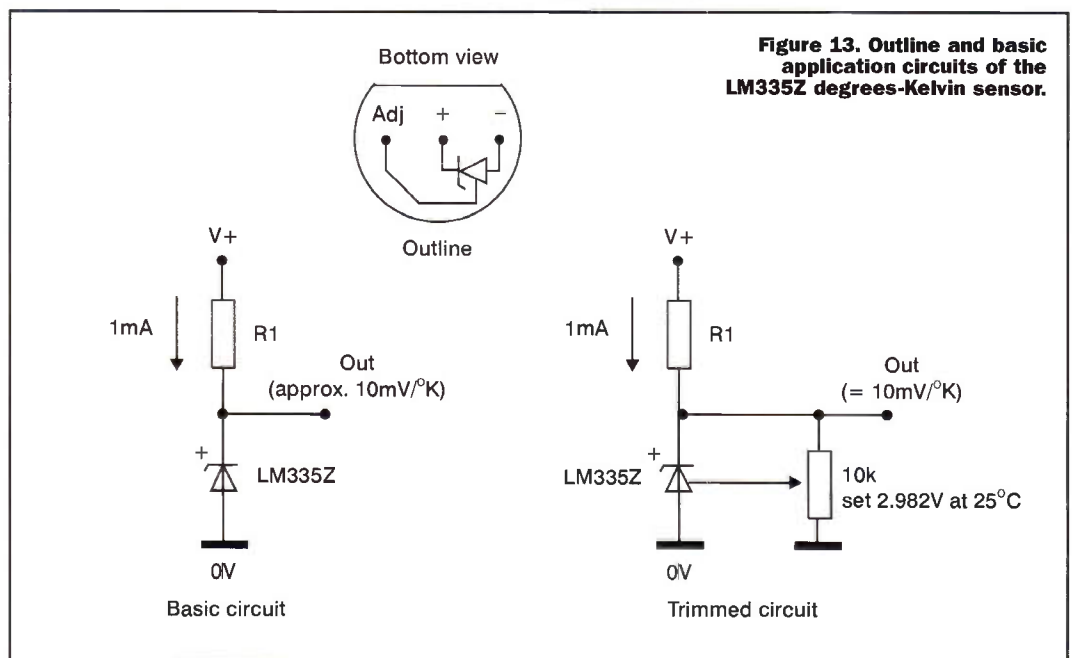
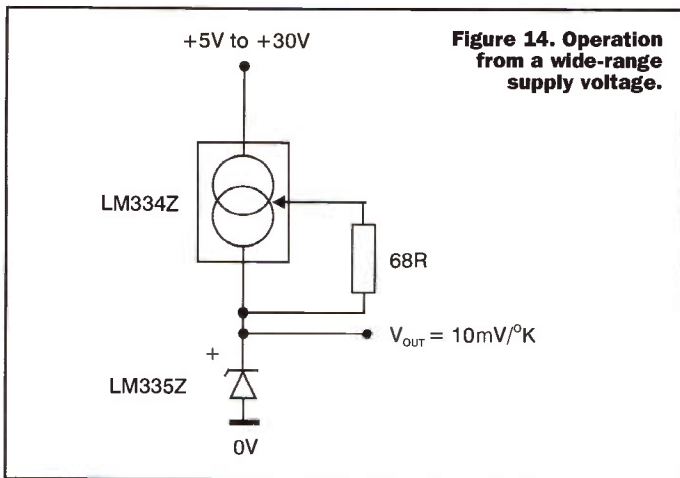

Figure 13. Outline and basic application circuits of the LM335Z degrees-Kelvin sensor.
Figure 14. Operation from a wide-range supply voltage.
2.732V at 0°C, or 2.982V at +25°C). Figure 13 shows the IC's outline and simple ways of using the device in either the basic or the 'trimmable' (precision) mode; note in these circuits that the R1 value is chosen to set the IC's current at about 1mA. Figure 14 shows how the basic circuit can be modified for 1mA operation (via the LM334Z constant-current generator)